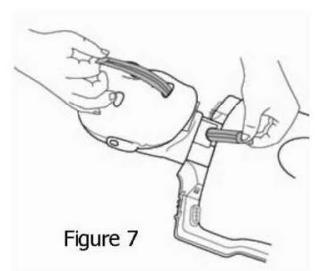

Figure 7
7.Grasp the lung bag and pull it through the neck (Figure 7)